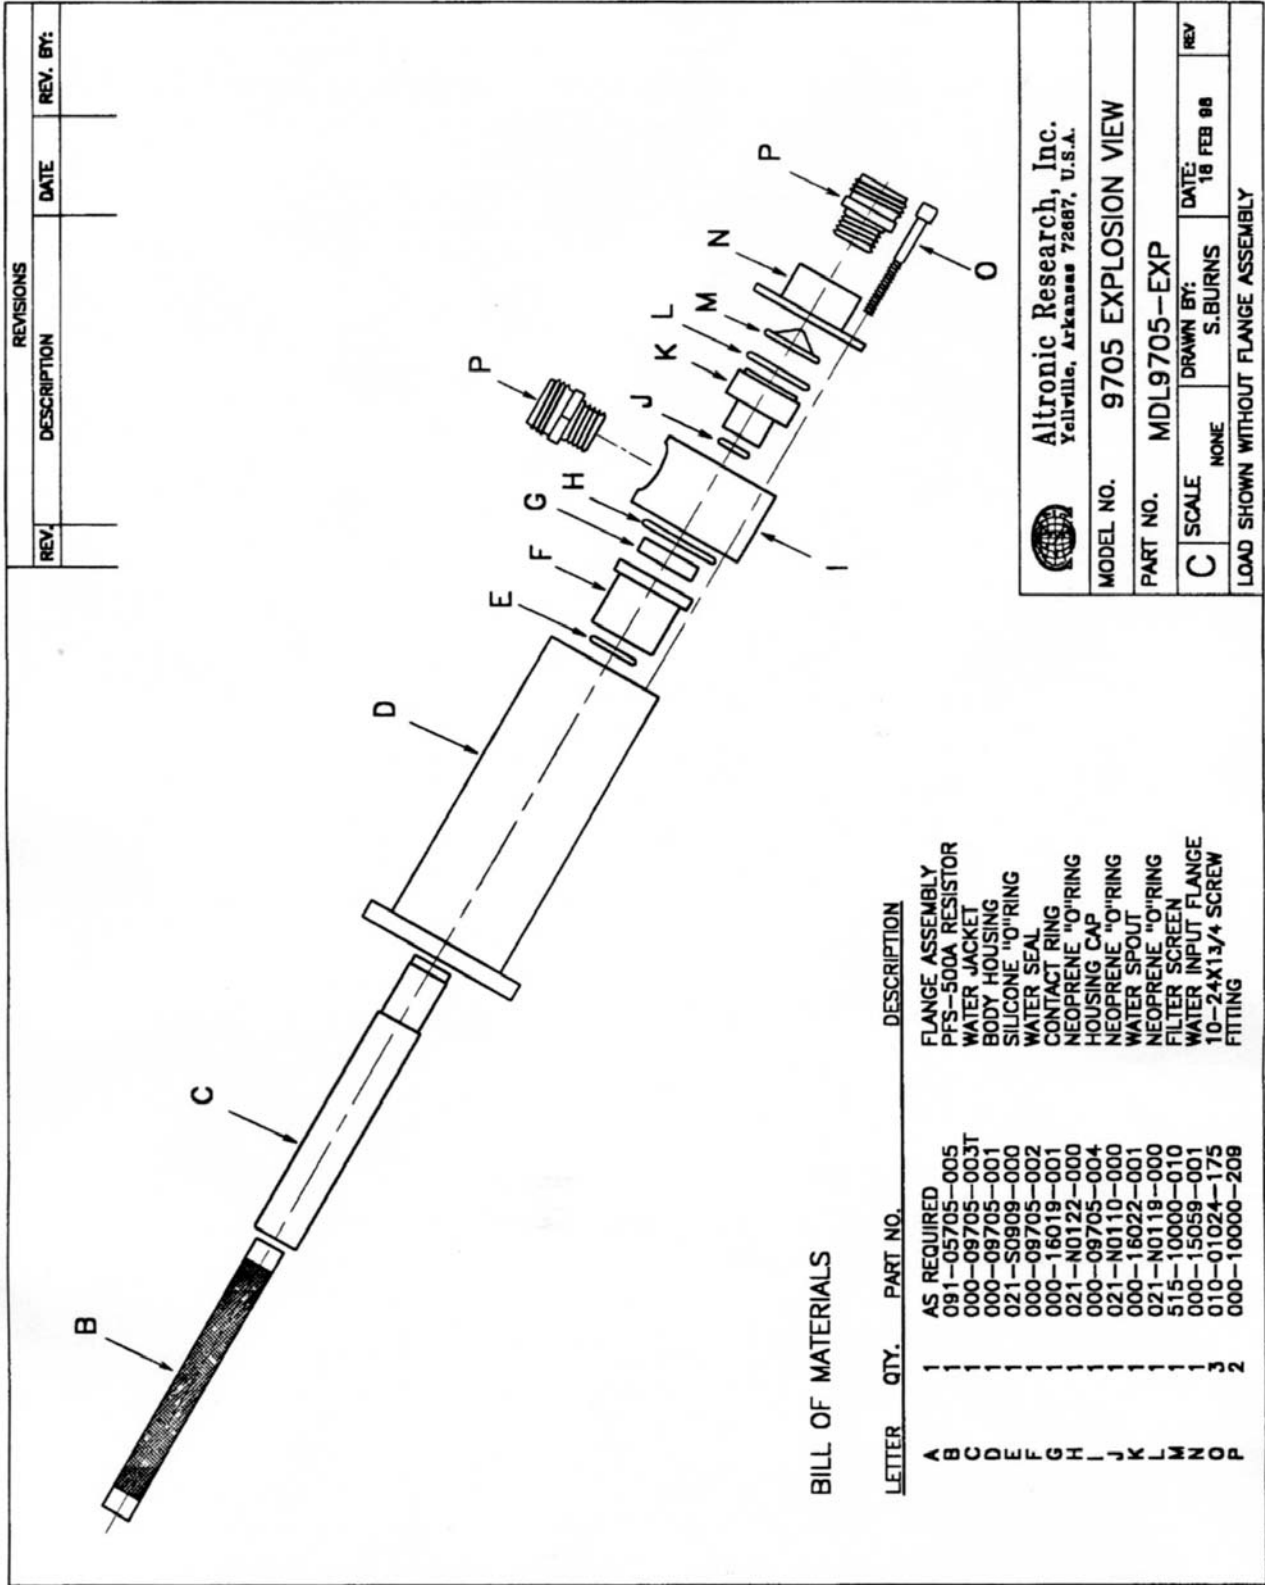

Fig. 14
4. **Resistor Replacement** - (Refer to Fig. 14) To replace the resistor element, remove the three 10-24x1-3/4" cap screws (item O). Remove water input assembly (items M, N, and P). Inspect filter screen for damage, replace if eroded or torn. Remove housing cap assembly (items G, H, I, P, J, K and L). Inspect all O-rings for distortion or damage. Replace if pinched, cut, burned or no longer round in cross section. Inspect ring contact (item G) for signs of arcing or loss of silver in the area of contact with the resistor contact band. Replace if damage is noted. If resistor (item B) is not broken, grasp by the end extending from the water seal (item F) and pull it straight out of the load. (If
- 5. Removal of RF Input** - (Refer to Figure 15) To remove the RF line connector (item 2), remove four 8-32 x 1/2 T-15 torx head screws (item 1). To remove the RF input line adaptor flange (item 4), remove four 10-24 x 3/8" socket head screws (item 3) that secure the line adaptor flange (item 4) to the load body housing (item D, Fig. 14). The RF input assembly consisting of the center conductor, anchor insulator and front resistor contact (item 5) will normally remain in the load body. Lift front washer off the end of Q.S. resistor contact. Grasp the Q.S. resistor contact by hand and attempt to pull the input assembly out of the load body using slight side to side motion while pulling. If strong resistance is encountered, it may be necessary to chill the load to allow the anchor insulator to shrink away from the load housing. This can be done by placing the load in a freezer, or packing the load in ice for 20 to 30 minutes. Once the anchor insulator has shrunk away from the load housing, the RF input assembly should be easily removed. At this point of disassembly, all components of the load can be inspected or replaced as needed. Reassembly should be done in the reverse order of sequence. See Fig. 16 for individual component identification of item 5.